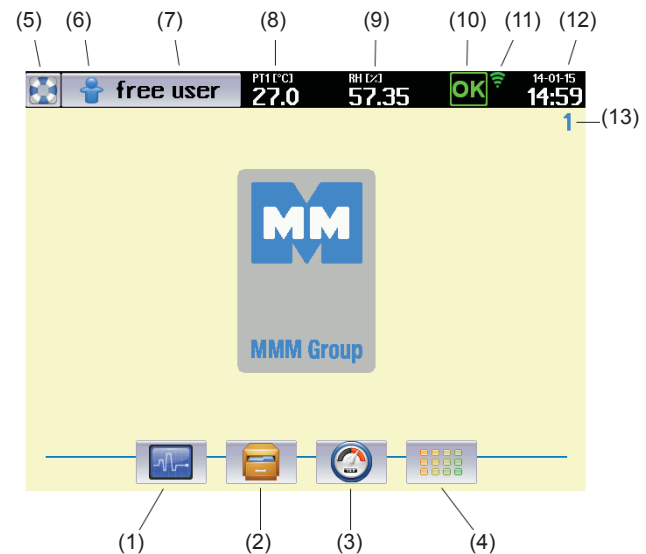

Fig. 12
requires, it must first be set up. Click  (Fig. 12) to open the device settings screen.
- The field (7), Fig. 12, displays the words free user.
- The field (7), Fig. 12 displays the word admin.
- The field (7), Fig. 12, displays the word admin.
- The field (7), Fig. 12, displays the operator name.
- The field (7), Fig. 12, displays the word login.
administration. Clicking the  (Fig. 12) icon opens the login screen.